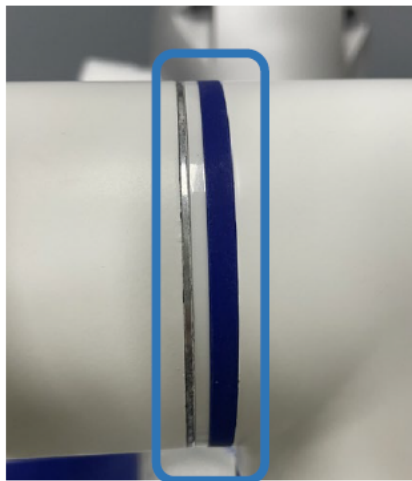

Figure 3-4 : Install supporting rings and rubber rings
3. Put down the plastic supporting ring. Then gently superimpose the rubber ring onto the supporting ring as **Figure 3-4 :**